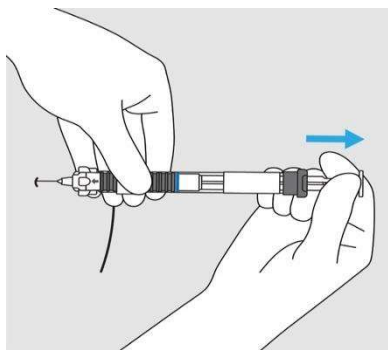

Figure 15: Pull plunger backward to aspirate
- b. Once the needle has been inserted, aspirate the needle by pulling the plunger backward for 5–10 seconds. Care should be taken to avoid inadvertent injection into a blood vessel. If blood is visible in the needle barrel, stop the injection and withdraw the needle immediately. (Figure 15)